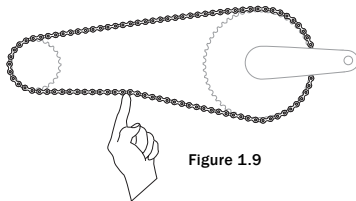

Figure 1.9
- Coaster brake: There should be between 6-12mm (0.25-0.50 in) total vertical movement in the middle of the chain (Figure 1.9).